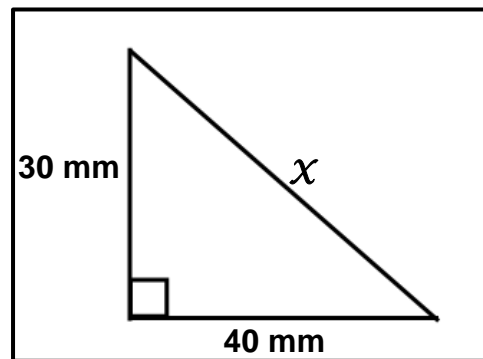

FIGURE 4.12
4.12 What is the length of  $X$  in FIGURE 4.12 below?